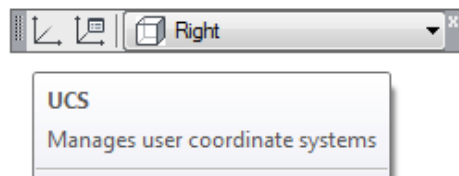

Figure Step 10A
Step 10 Click the UCS command icon as shown in the figures. With osnap enabled, snap to the end of the line. Note that the UCS icon has now moved to the end of the line that you just selected but it remains located on the right side plane. (Figure Step 10A, 10B, 10C, and 10D)